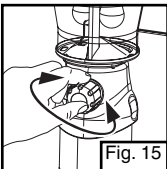

Fig. 15
- Brightness may be adjusted with fuel valve. (Fig. 15)